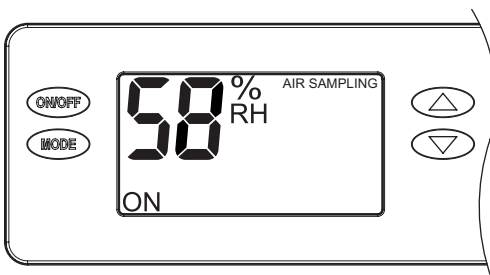

Figure 3: Air Sampling
- The dehumidifier blower will turn on, the word SETTING disappears from the display, and the words AIR SAMPLING appear (*see Figure 3*). This wording indicates that the dehumidifier is sampling the air to determine if dehumidification is needed and shows the measured humidity level.